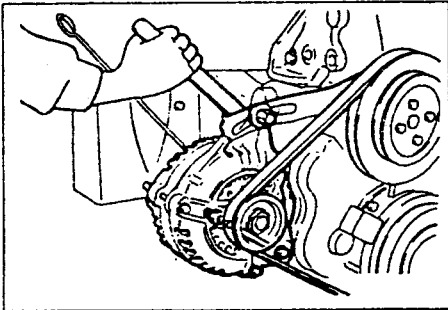

Fig. 3.7. — Adjusting the alternator belt tension when a conventional adjusting link is used (diesel engine).
- Use a tyre lever or a strong screwdriver, as shown in Fig. 3.7 and force the alternator towards the outside until the belt is properly tensioned. If the original belt is used, tension the belt until it can be depressed by the amount given above for the diesel engine. If a new belt is fitted, tension it slightly more, as it will stretch during the first miles of operation. The tension is correct if the belt can be depressed by approx. 6.5 - 8.0 mm. Re-check the belt tension after the vehicle has been driven by approx. 500 miles. The deflection should then be between 7 and 10 mm ("V" belt) or 8.0 - 8.5 - 10 mm ("toothed" belt). Re-adjust as described above, if this is not the case. Signs of a slipping drive "V" belt are a squealing noise from the engine compartment when the engine is accelerated suddenly. The belt will slip in the pulleys, thereby producing a noise. This will not be the case with the "toothed" belt.